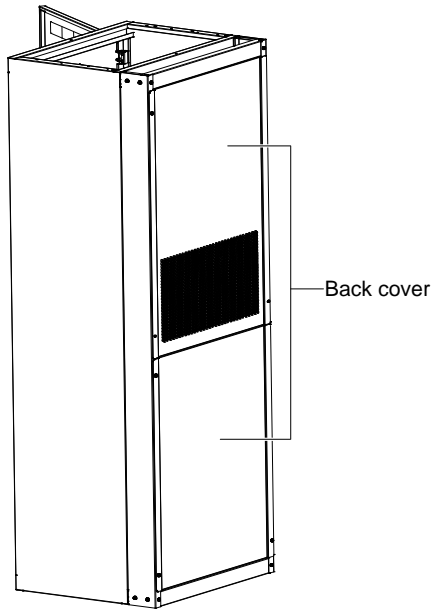

Figure 2-12 Rear cover plate installation for bottom cabling method (2)
2. Install the original rear cover plate on the outside of the new one, as shown in Figure 2-12.